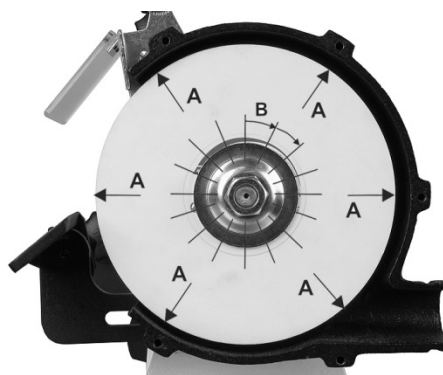

Figure 6-13: Wheel Balancing
If the outside face is not rotating concentrically with the arbor, try shifting the wheel closer to arbor centerline before tightening the nut. See A, Figure 6-13.
2. If wobble still exists, continue repeating step 1, rotating the outer flange incrementally in the same direction. See B, Figure 6-13. Make sure